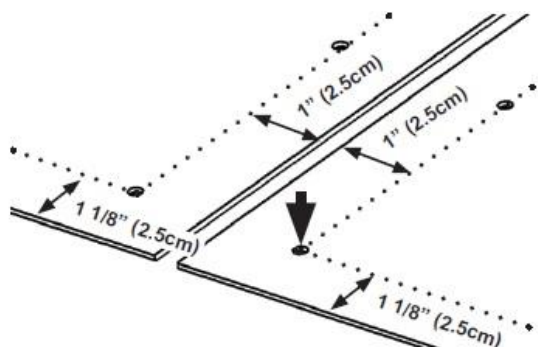

Figure 96
5. To mark the location for the connector bar holes, measure 1" in from each edge to be joined, and mark a line parallel to the cut edges. Figure 96